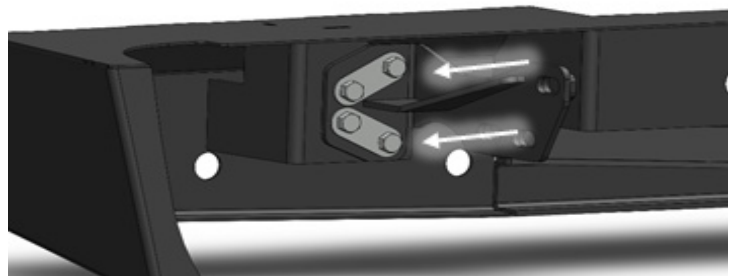

Figure 5
12. With the bumper held into place insert the four (4) stud plates (20296) through the intermediate brackets (20367 & 20368) and into the bumper brackets placing the eight (8) 1/2"-13 yellow zinc hex nuts, lock washer and flat washer on the front side of the frame mount. Do not fully tighten, snug up only. (Figure 5 & 6) (61374-HW)